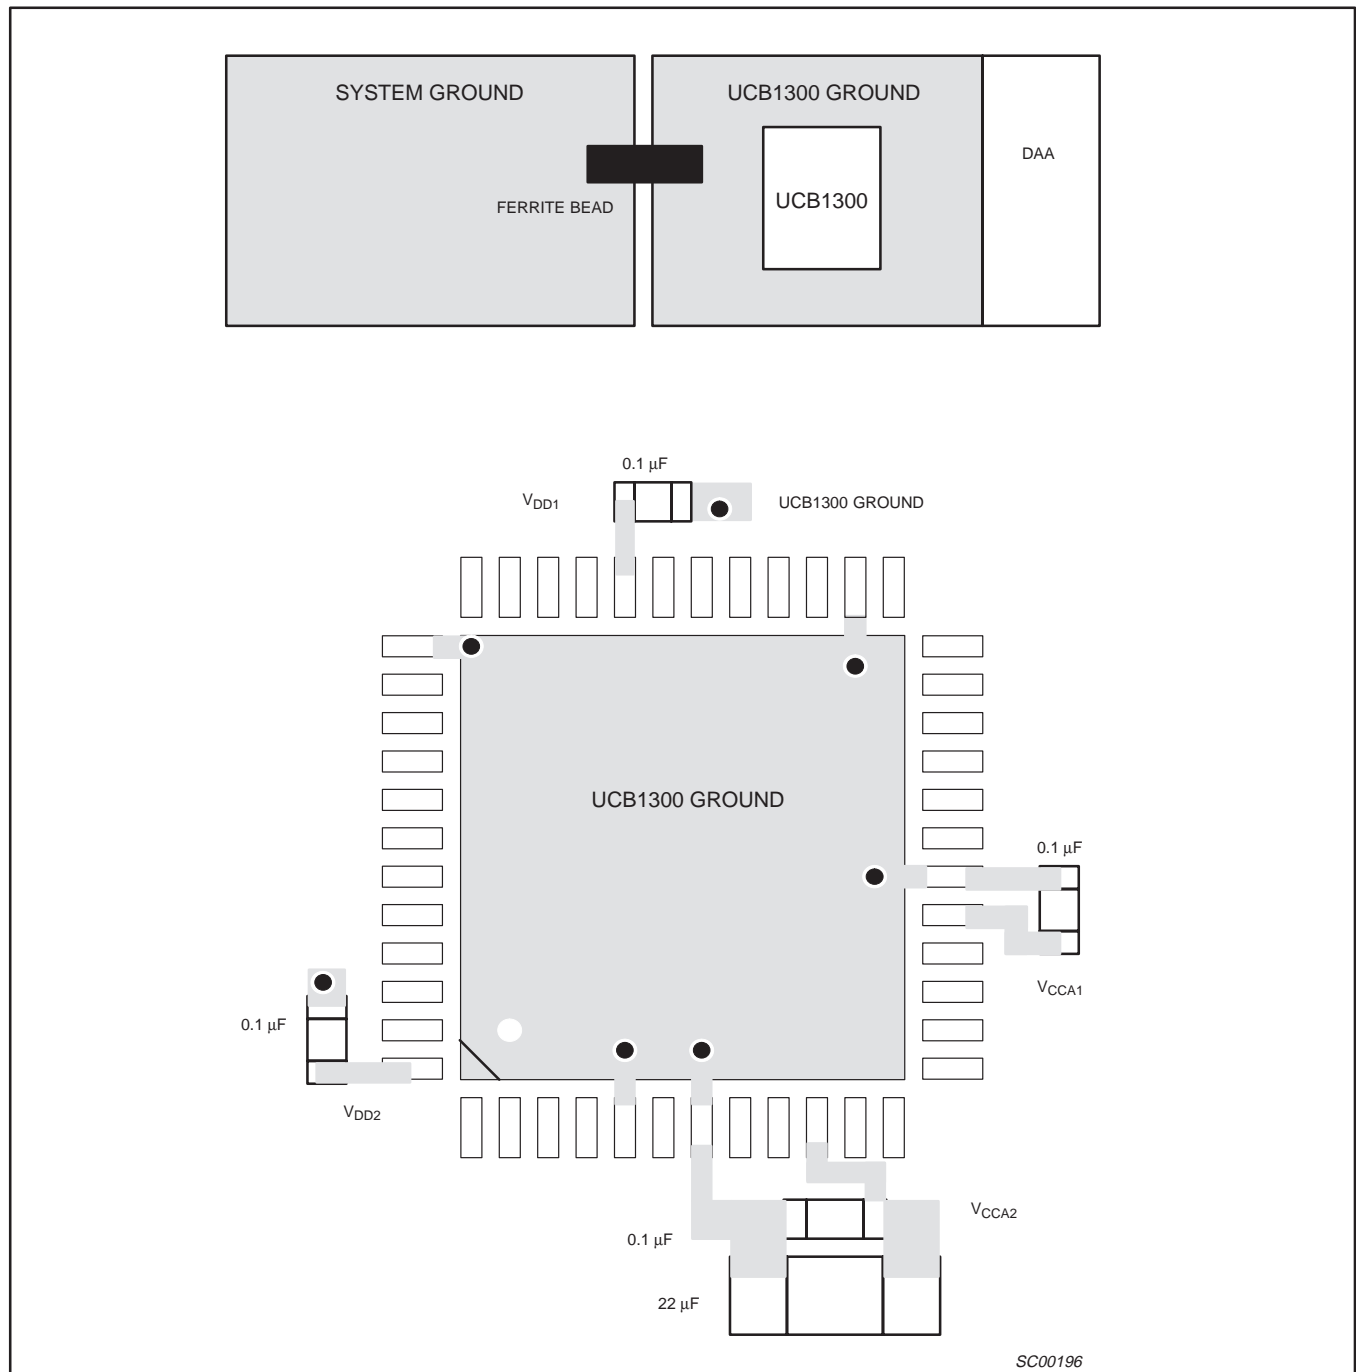

Figure 7. Printed circuit board layout for UCB1300
7. Decoupling capacitors should be placed as close to the IC as possible. (Refer to Figure 7.)